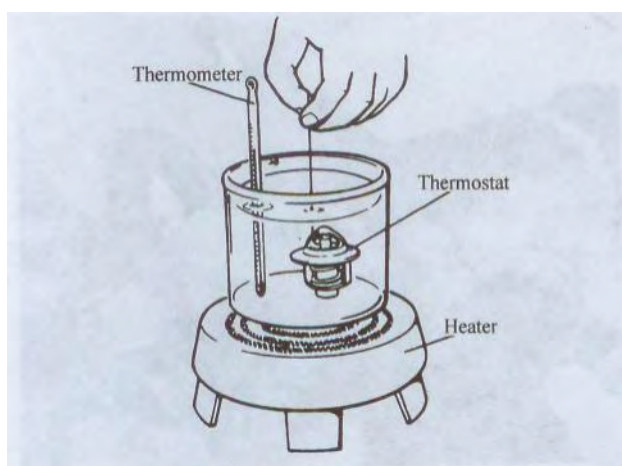

FIG.6-20 (see fig.7-21 of service manual for HFJ6351B)
(2) Check the valve seat for some foreign matters being stuck which prevents the valve from seating tight.
(3) Check the thermostatic movement of the wax pellet as follows: (FIG.6-20)。